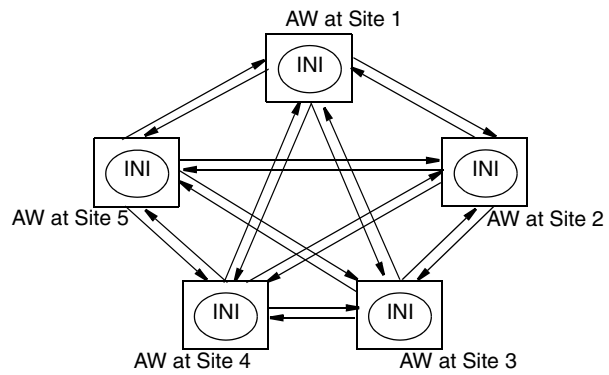

Figure 6. Q0301ZS and Q0303AQ
- ▶ Q0301ZV - INI70 Symmetric Software for Five Systems (Figure 6)
- ▶ Q0303AQ - Upgrade to INI70 Symmetric Software for Five Systems (Figure 6)